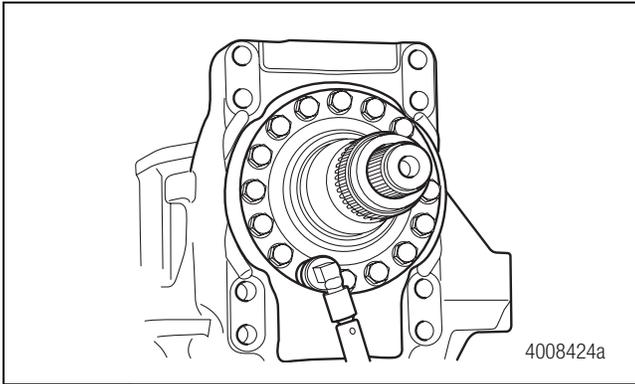

Figure 8.8
12. Install the spindle mounting bolts and tighten to the torque specified in Section 11. Figure 8.8.